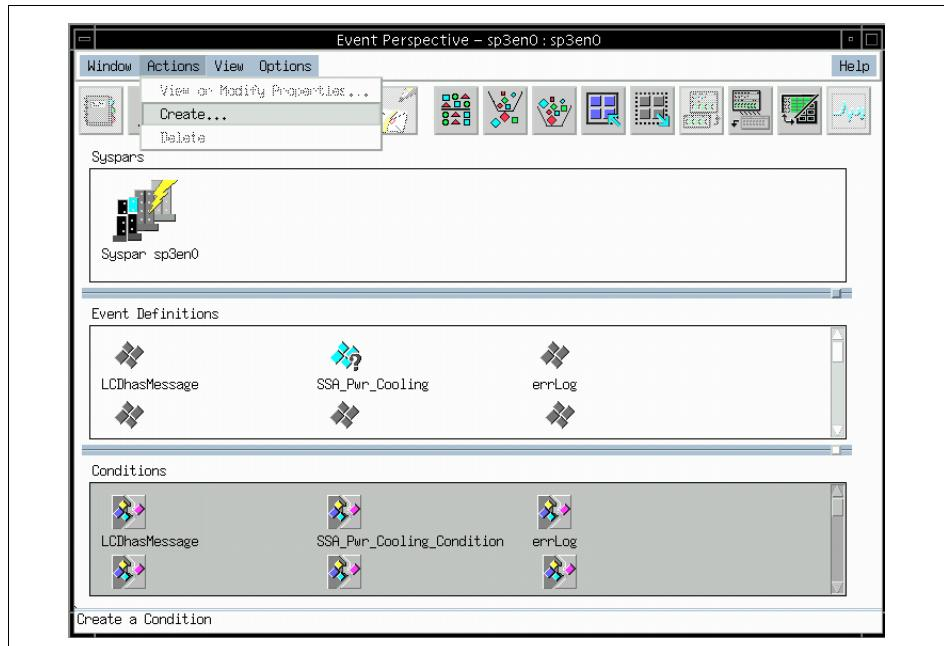

Figure 142. Create Condition Option from Event Perspectives
Step 4 Create the condition. To create the condition, let us move the focus to the conditions pane on Event Perspective and then select **Actions->Create...**, as shown in Figure 142.